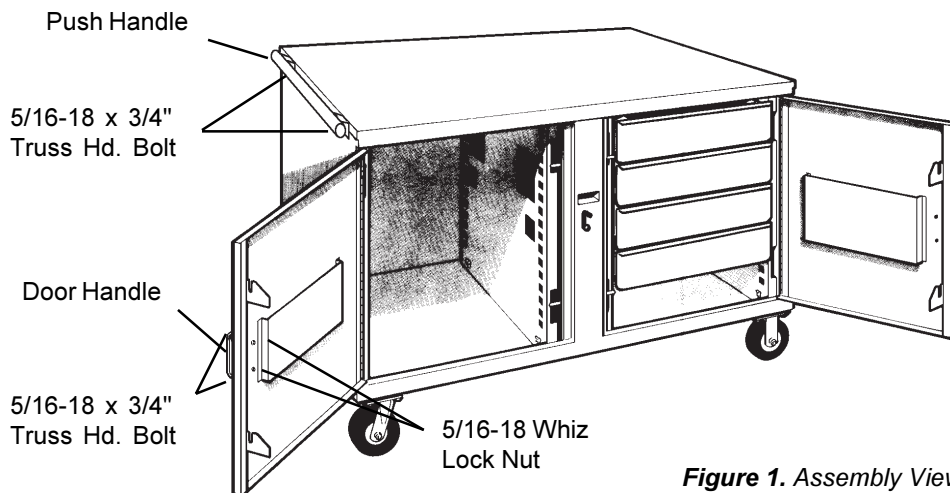

Figure 1. Assembly View
1. Remove the caster box and handle kit from the cabinet. Attach Handles to the doors (*Figure 1*). Attach the Push Handle to the end.